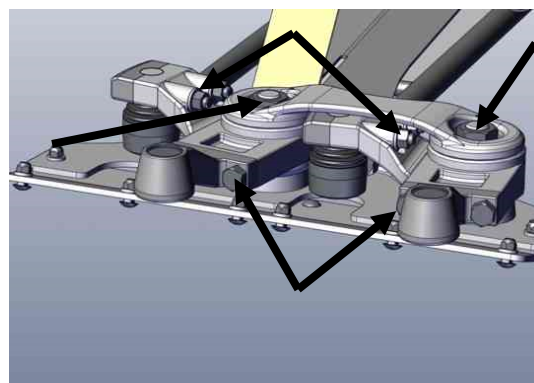

Figure 111
3. Remove the knife head bearings by removing the bolts. Figure 111. Note the location of any shims behind the knife head bearings.